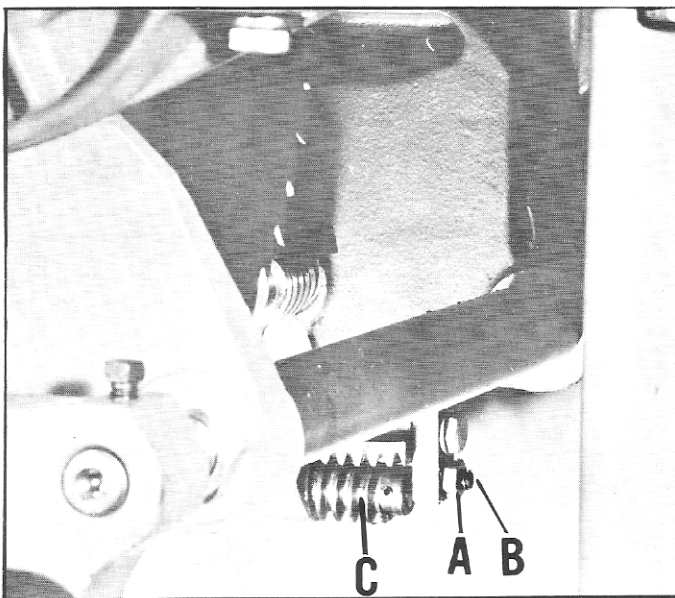

Fig. 30
4. If the blade is not at 90 degrees to the table, loosen locknut (A) Fig. 30, and back out adjusting stop screw (B). Then turn the blade tilting handwheel until you are certain the blade is at 90 degrees to the table. The adjusting stop screw (B) should then be turned until it bottoms against the end of the tilting screw (C) Fig. 30, and locked in this position with locknut (A). Recheck and adjust further if necessary.